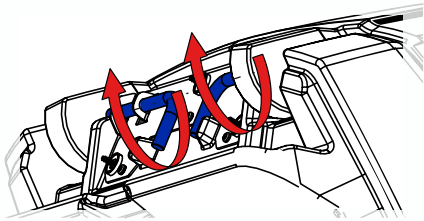

Fig. 20
- Release pins by turning (Fig. 20)